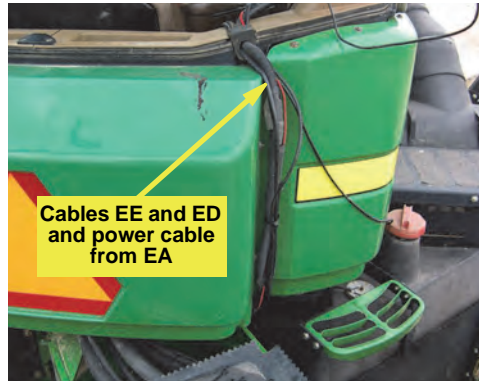

Figure 2b: Cables out from cab
- c. Connect cables **EE** (WAS) and **ED** (valve) to their respective connectors on controller cable **EC** then route them, with the power cable from **EA**, out the back window and down to the right side of the tractor. Route the cables along the frame with existing cables and hoses (Figure 2b).